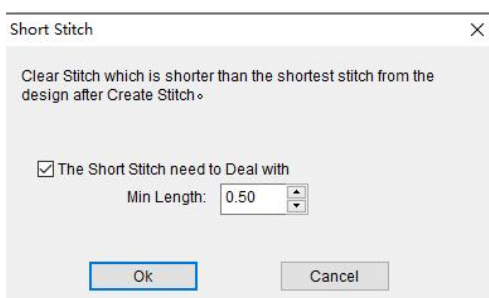

Figure 3
3.Check the short stitch prompt box to process the short stitch (Figure 3).